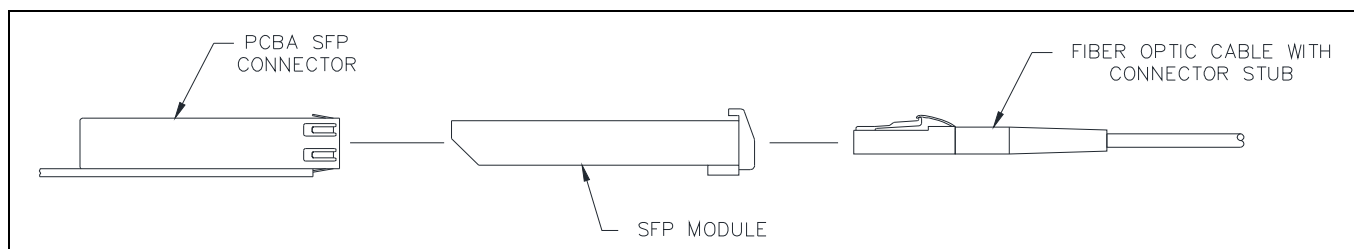

Figure 4. SP2 Fiber Optic Ethernet Connection
8. Insert the SFP transceiver into the SFP receptacle (see (see Figure 4)).
11. Plug the fiber connector into the SFP (see (see Figure 4)).